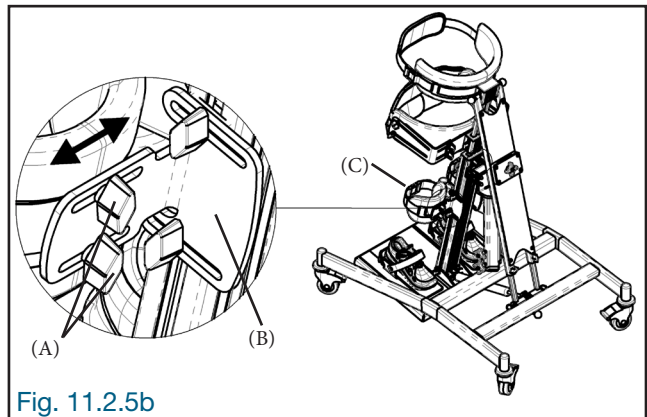

Fig. 11.2.5b
Loosen the locking knobs (A) located at the back of the knee stop support (B). Slide the knee stop (C) to the required position and then tighten the locking knobs (A) firmly (Fig. 11.2.5b).